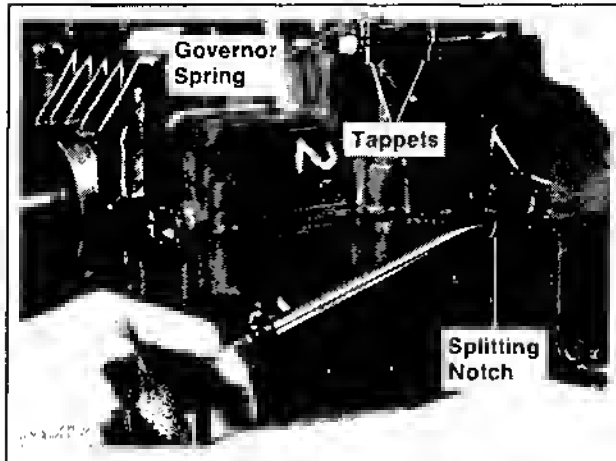

Figure 9-32. Splitting The Crankcase.
4. Lay the crankcase down so the #2 side is up. Locate the splitting notches in the seam of the crankcase. Pry the halves apart using the blade of a large screwdriver. Refer to Figure 9-32.